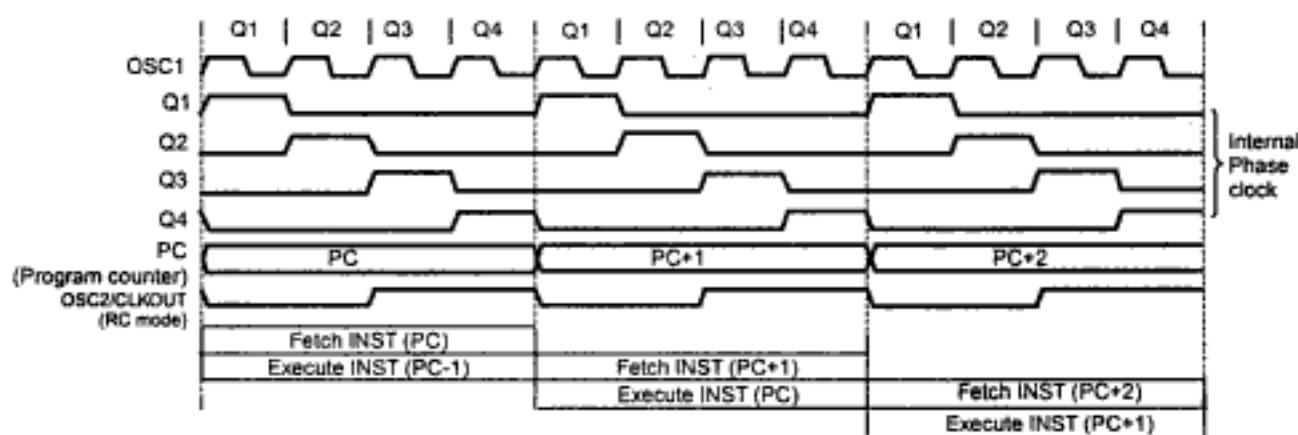

Fig. 18.6 Clock /instruction cycle
The clock input (from OSC1) is internally divided by four to generate four non-overlapping quadrature clocks namely Q1, Q2, Q3, and Q4. Internally, the program counter (PC) is incremented every Q1, the instruction is fetched from the program memory and latched into the instruction register in Q4. The instruction is decoded and executed during the following Q1 through Q4. The clock and instruction execution flow is shown in Fig. 18.6.